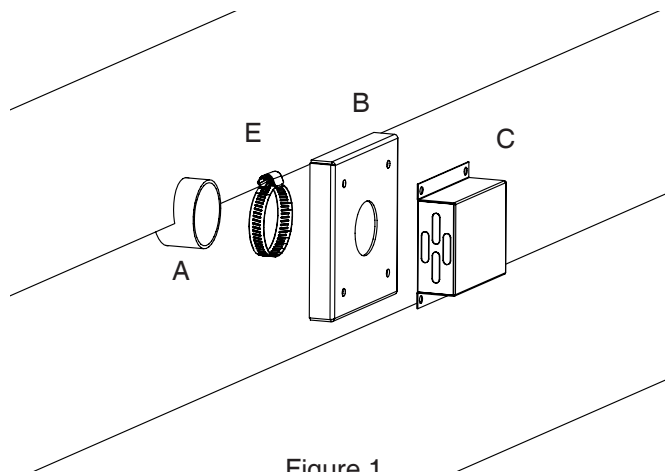
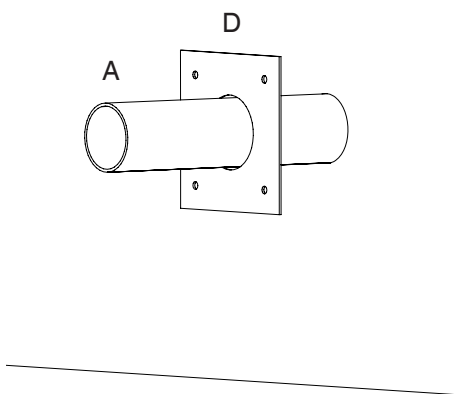

Figure 1
Figure 2
2. Insert the hose through the wall and attach the Outside Cover with one of the 2" hose clamps provided. See Figure 1.
4. Next, attach the Rodent Cover to the Outside Cover using four(4) of the #10 x 3/4 screws supplied.
5. On the inside of the home, slide the Inside Plate over the tube then attach to the wall with the four Drywall Anchors and screws provided. See Figure 2.